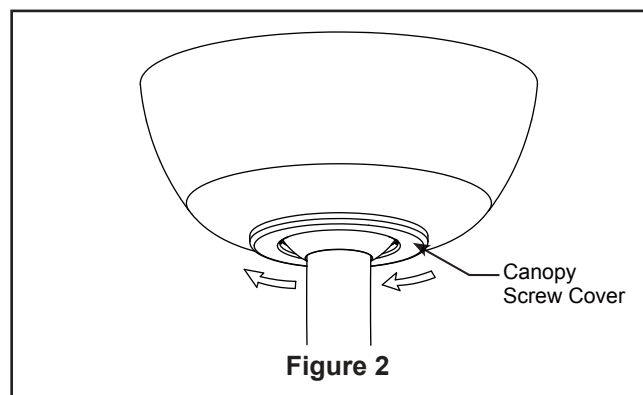

Figure 2
- ☐ 2. Securely attach and tighten the canopy screw cover over the shoulder screws in the hanger bracket utilizing the key slot twist-lock feature. (Figure 2)